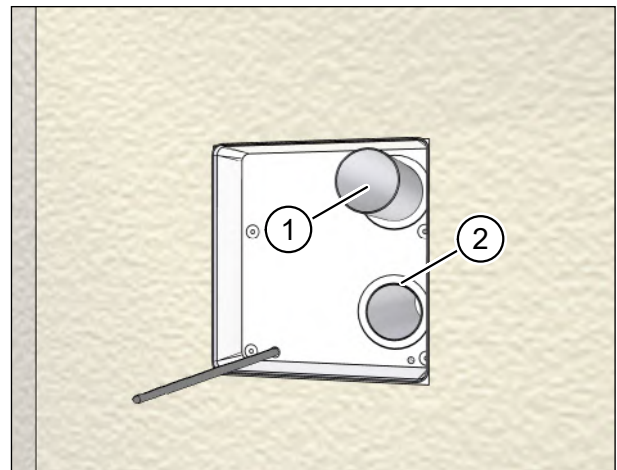

Fig. 28: Cutting ventilation pipes to length
- ▶ Push the two ventilation pipes (item 1 in Fig. 28) into the openings in the installation kit until they end flush with the inside of the installation kit (item 2 in Fig. 28).